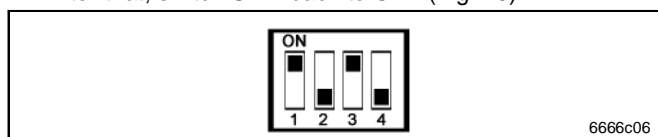

Fig. 40 DIP switch: Spray lubrication systems – ready for operation
- After that, switch SW4 back to OFF (Fig. 40).